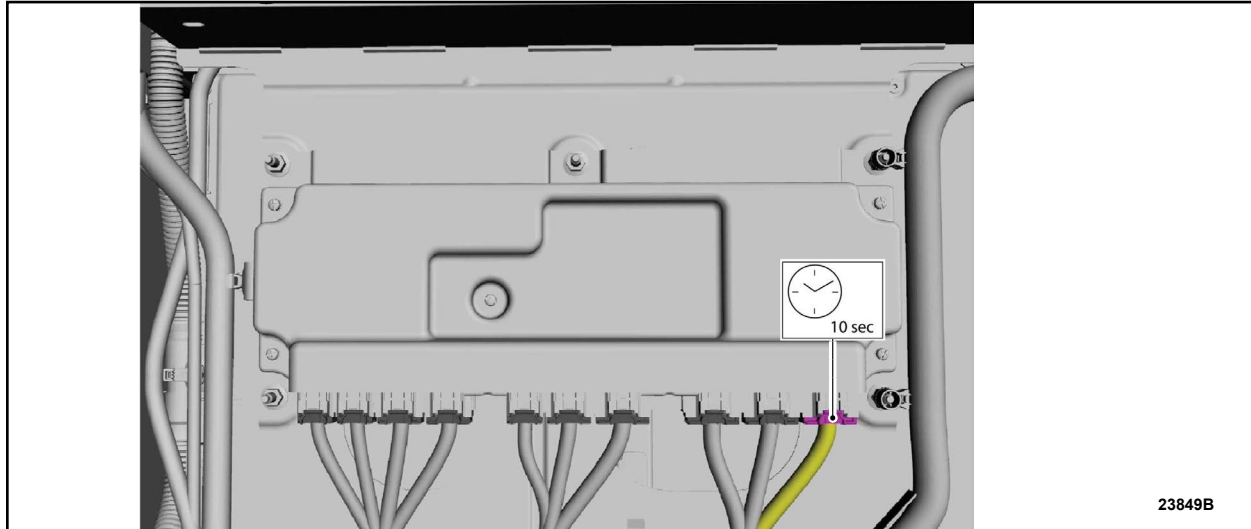

FIGURE 2
NOTICE: Wait 10 seconds after disconnect the BECM electrical connector shown, See Figure 2, before disconnecting the remaining electrical connectors or component damage may occur.
3. Disconnect the BECM electrical connector. See Figure 2.